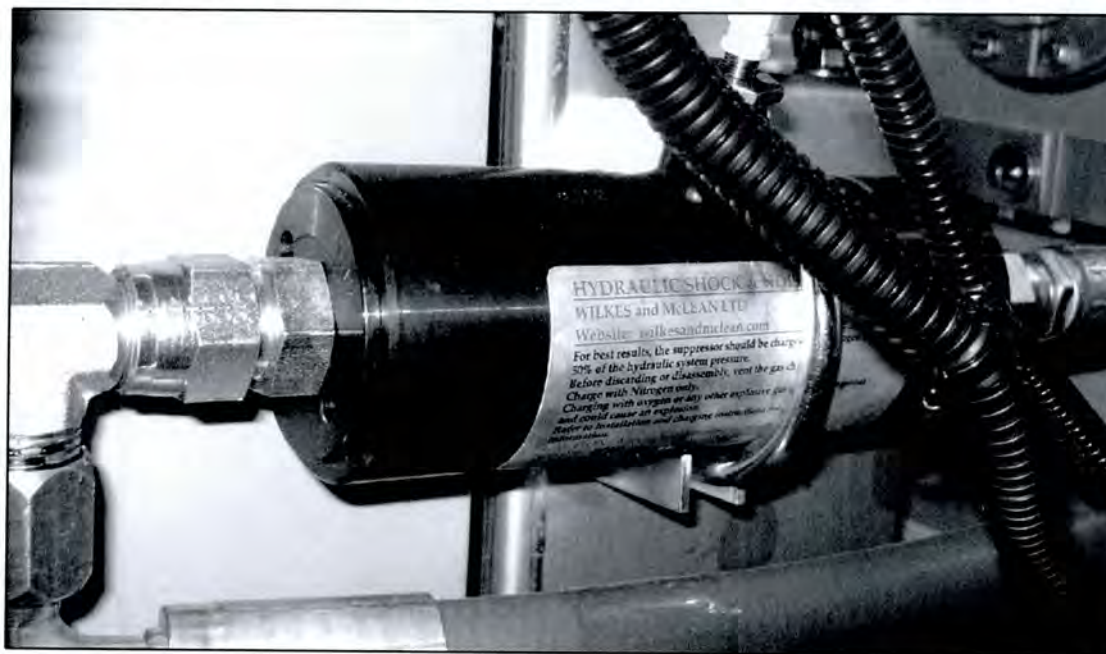

Figure 2. Reference photo of suppressor orientation.
6. On a workbench, assemble the suppressor, p/n 11-08-1450, suppressor o-ring fittings, and fittings, p/n 19-10-872 and 19-10-2481 (refer to Figures 2 and 3 for proper orientation). Using two (2) wrenches (use one { 1 } as a backing wrench), torque suppressor o-ring fittings to 43–48 ft-lbs.